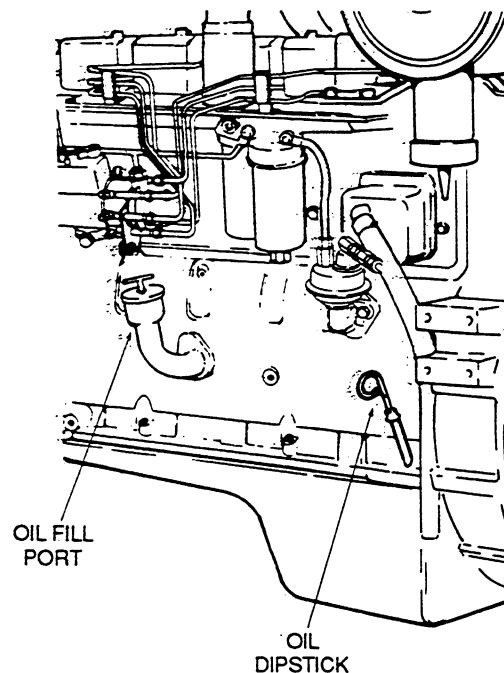

FIGURE 16. OIL FILL AND DIPSTICK LOCATION
2. Fill crankcase to "L" (low) mark on dipstick (Figure 16).